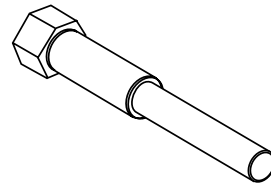

Figure 16. Upper Clutch (Drive Pulley) Removal Tool
- Locate the Clutch Removal Tool provided with the trowel, p/n 23294 located within the documentation box. (Figure 16)
4. Again hold the flywheel in place as above and thread the Special Upper Drive Pulley Removal Tool (Figure 16), into the Upper Drive Pulley. Tighten until the taperlock breaks free. Slide the pulley off the shaft.